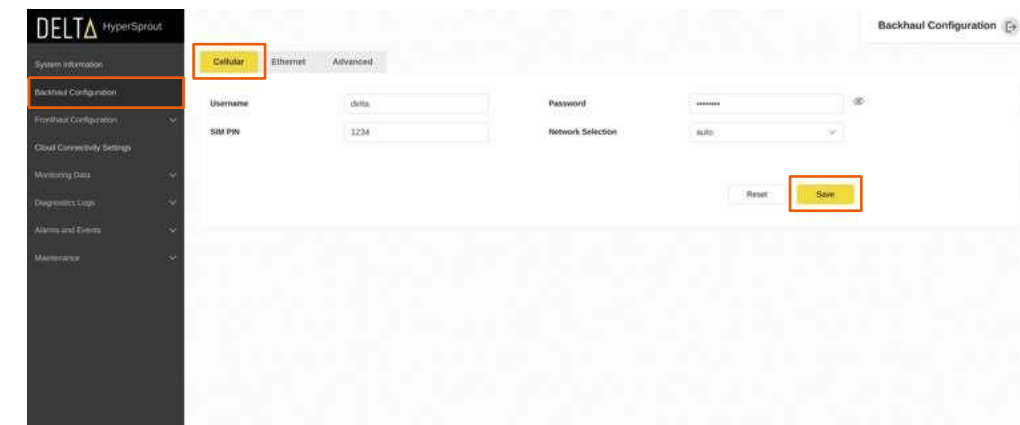

Figure 40: Backhaul - Cellular
- d. In the **Cellular** section, provide the **Username**, **Password**, **SIM PIN**, and **Network Selection** as either **Auto** or **Manual** as shown in **Figure 40**.